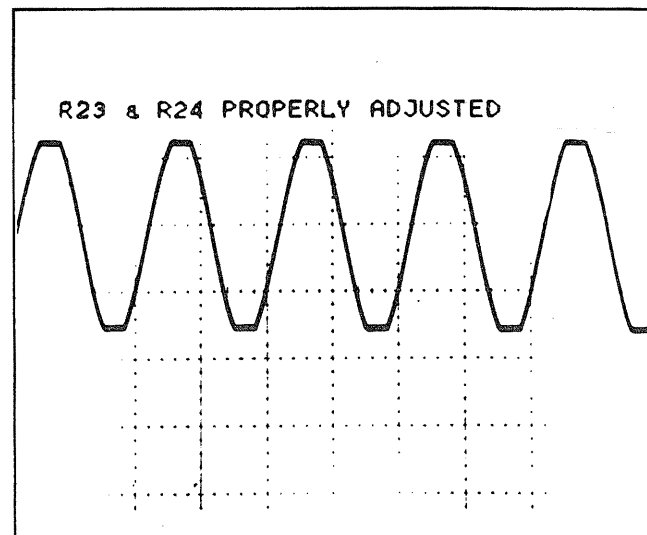

Figure 11 Properly Adjusted Pos and Neg Current Limit
Shown in Figure 11 is an asymmetrically clipped waveform caused by an improperly adjusted positive current limit as determined by R24. Had R23 been improperly adjusted, the negative half of the waveform would be clipped as well, but its degree of clipping is a function of R23 only and is independent of R24.
9. If R23 and R24 are properly adjusted, the channel should clip symmetrically (@ 1% THD) at approximately 450 watts as shown in Figure 11.